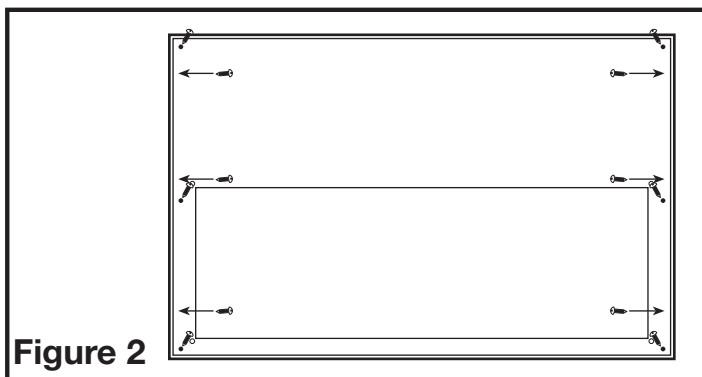

Figure 2
1. Secure the liner to the cabinet frame or custom canopy using three screws on each end of the liner and 3 screws on each side of the top of the liner (**Figure 2**).